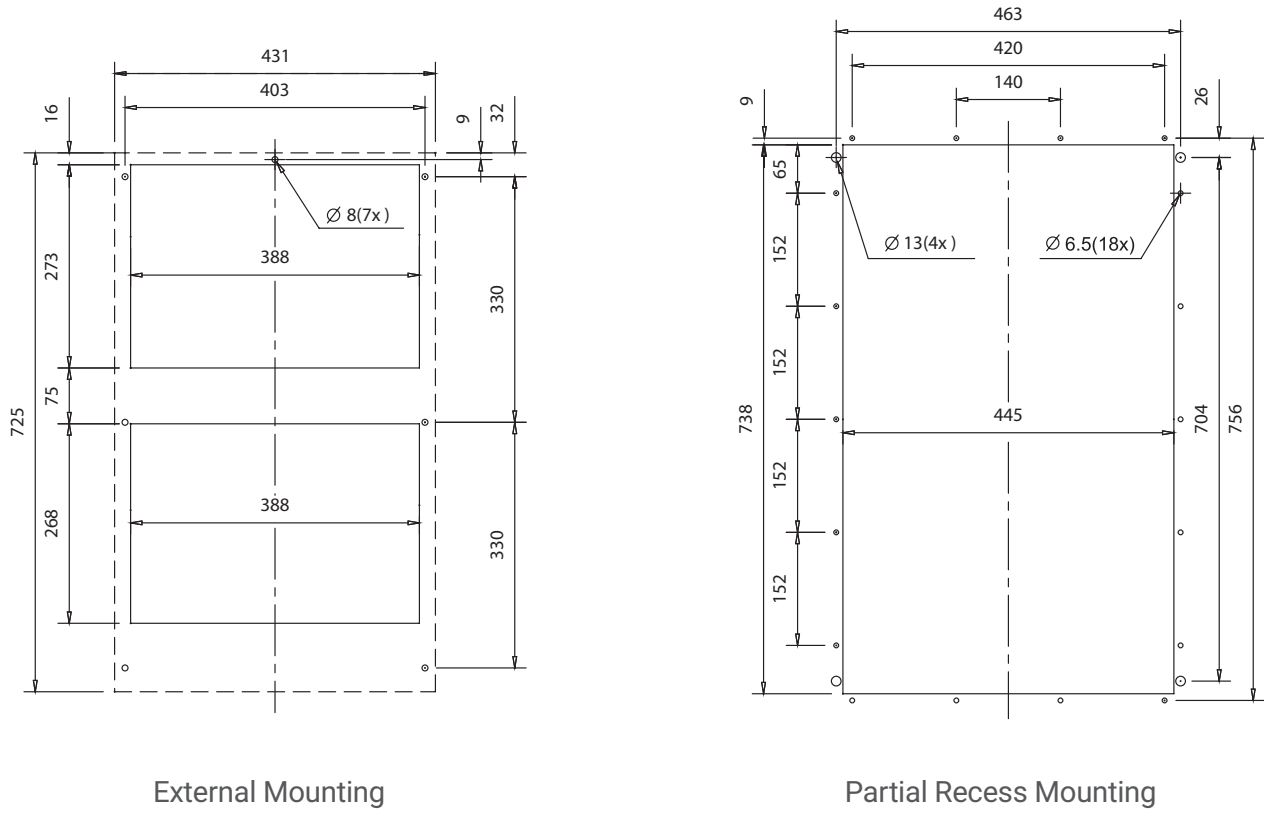

Figure 2
2. Using the mounting gasket kit provided with the unit, install gaskets to the air conditioner, Figure 2.
4. Allow unit to remain upright for a minimum of five (5) minutes before starting. CAUTION! Air conditioner must be in upright position during operation.